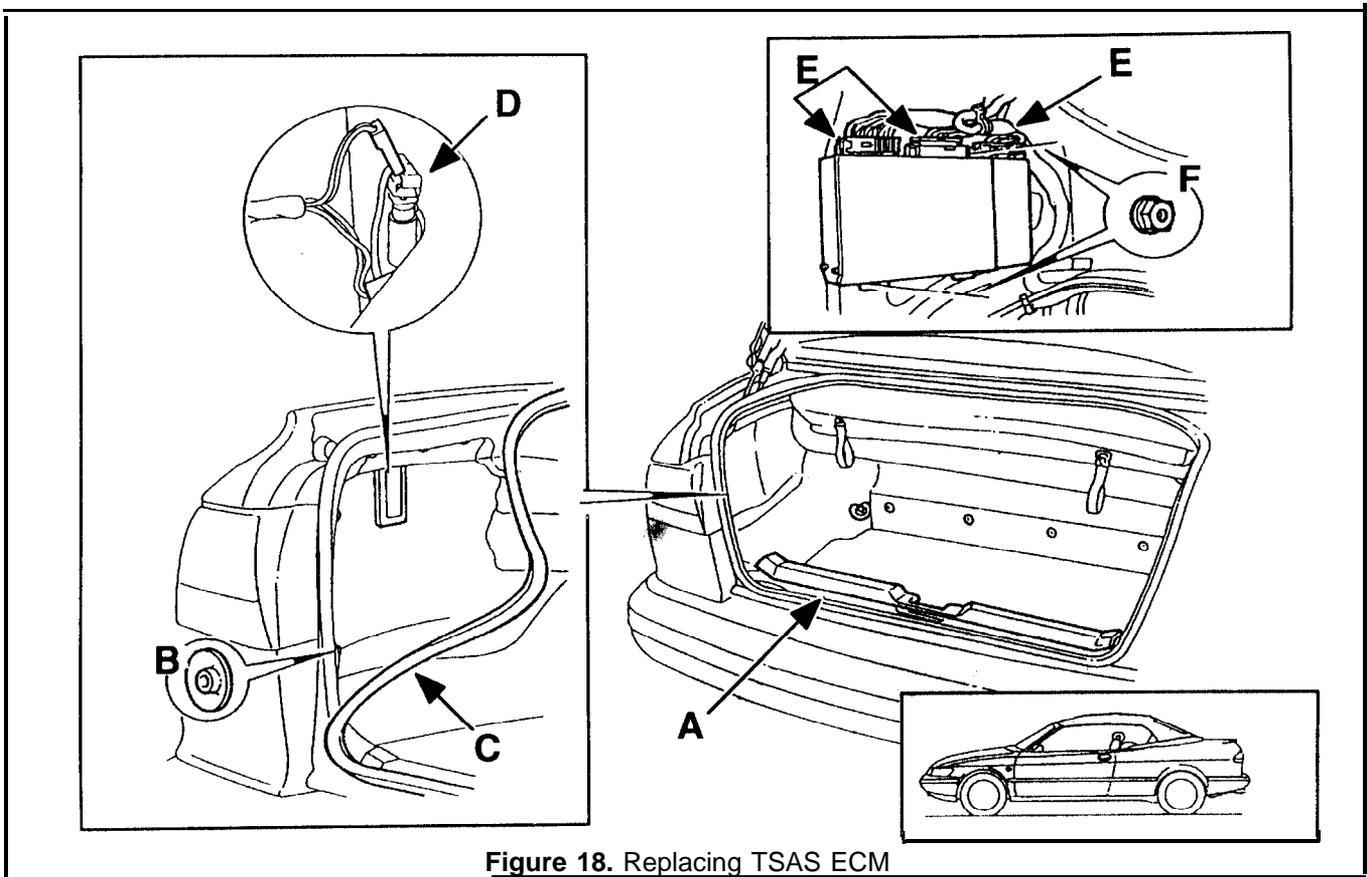

Figure 18. Replacing TSAS ECM
2. Remove the clip securing the luggage compartment weatherseal on the LH side. See Figure 18.B below.
3. Detach the luggage compartment weatherseal on the LH side. See Figure 18.C below.
4. Unplug the luggage compartment lighting connectors and fold down the trim. See Figure 18.D below.
5. Unplug the three ECM connectors. See Figure 18.E below.
6. Remove the nuts securing the ECM and lift it out. See Figure 18.F below.